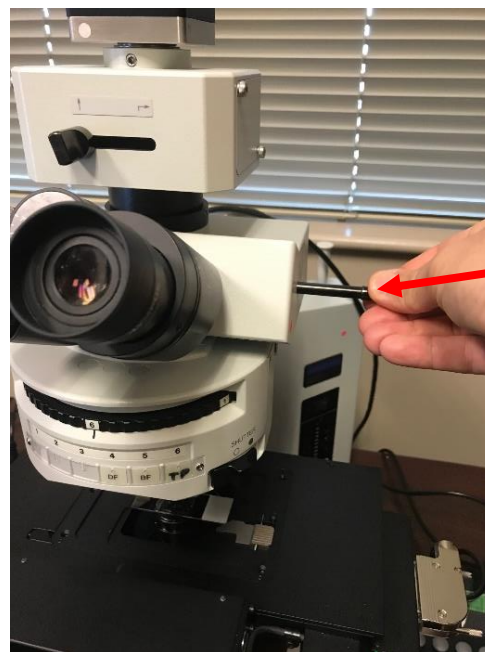

Figure 2.2e
- At this point, divert the light path from the HSI camera to the microscope eyepiece by pushing the slide bar in all the way on the trinocular head (you should hear/feel two clicks when pushing the slide bar all the way in) (Figure 2.2e).